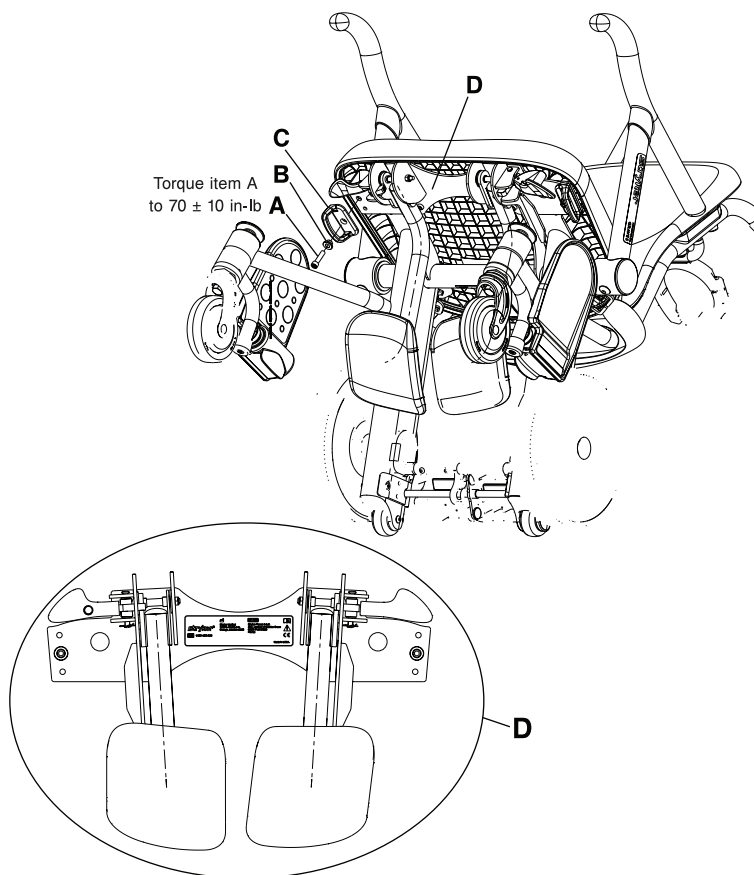

Figure 36: Leg rest weldment
3. If the unit is equipped with the foley bag hook, use a 3/16" hex wrench to remove the flange button head cap screws (A) that secure the foley bag hook on both sides of the chair frame. Discard the foley bag hooks (C) and screws (A) (Figure 36 on page 55).
4. Position the supplied leg rest mounting plate weldment (1460-166-0 05) (D) on the bottom of the chair frame (Figure 36 on page 55).
5. Align the positioning tabs on the bottom of the supplied foley bag hooks (1460-001-0 51) (C) with the pilot holes on the leg rest mounting plate weldment (Figure 36 on page 55).
6. Insert the supplied foley hook spacer (1460-116-025) (B) into the hole on the foley bag hook (Figure 36 on page 55).
7. Using a 1/4" hex wrench and the supplied socket head cap screws (0004-575-000) (A), secure the foley bag hook and the leg rest mounting plate weldment to the bottom of the chair frame on both sides. Using a 3/8" drive torque wrench, torque the screws to 70 ± 10 in-lb.
4. Using a 1/4" hex wrench, remove the socket head cap screws (A) that secure the foley bag hook and the leg rest mounting plate weldment to both sides of the chair frame. Remove the leg rest mounting plate weldment (D), the foley hook spacer (B), and the foley bag hook (C) (Figure 36 on page 55). Save the leg rest mounting plate weldment, screws, spacers, and foley bag hooks.